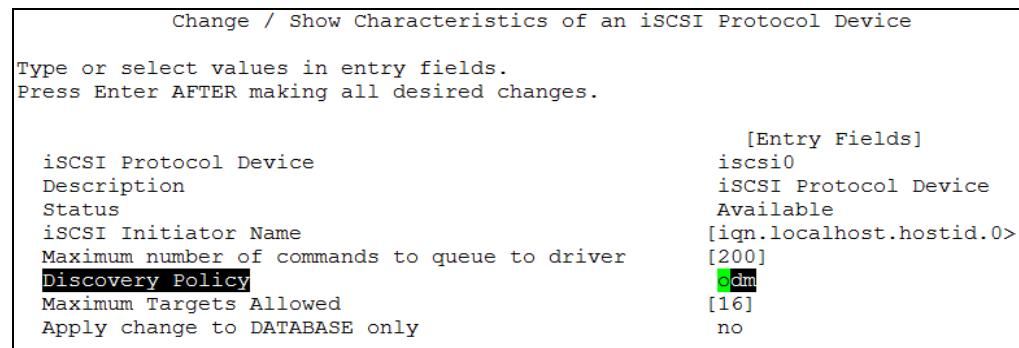

Figure 7-6 Change / Show characteristics of an iSCSI Protocol Device menu
1. Repeat steps 1 on page 93 - 3 on page 93 in “File discovery policy” on page 93. Instead of selecting file, select odm, as shown in Figure 7-6.